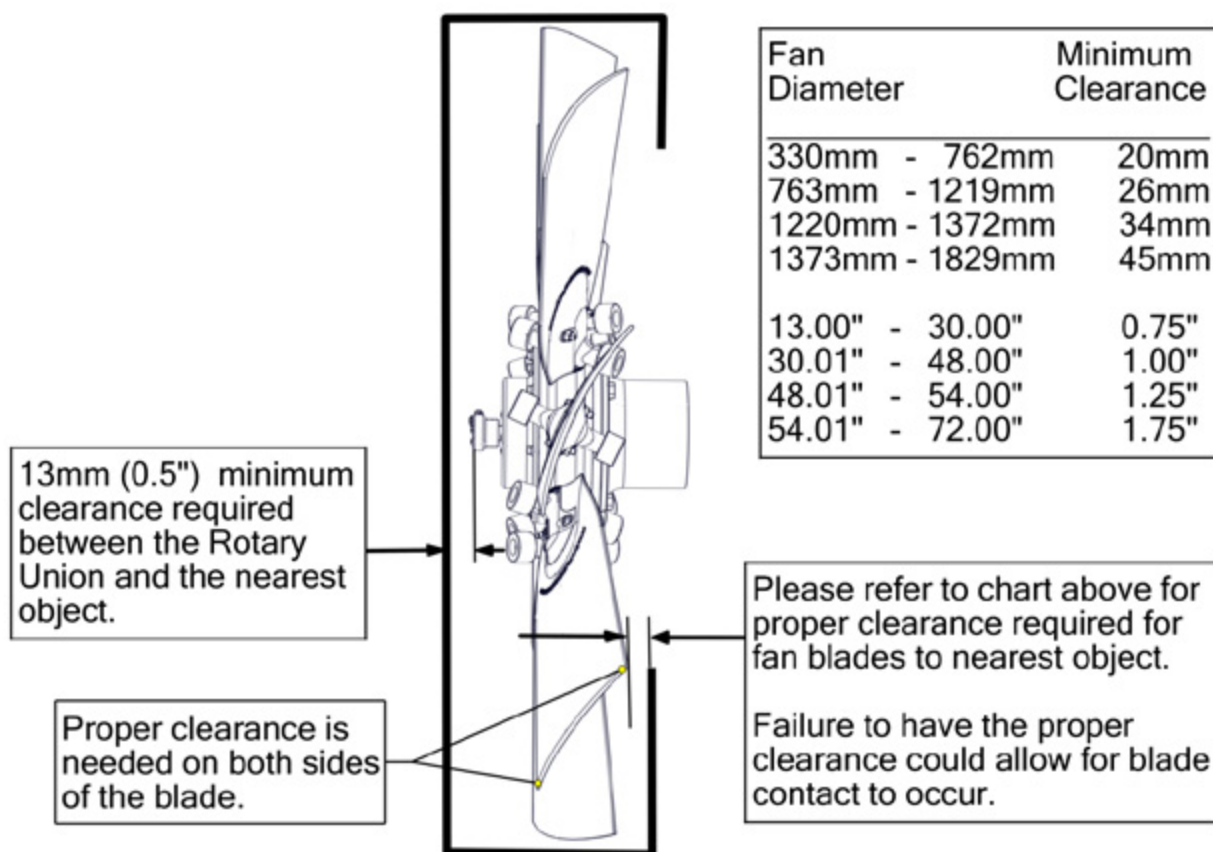

Figure 10
5. Ensure you have the correct blade edge clearance. See Figure 10 on the next page or a list of minimum clearances based on fan diameter.
WARNING: Ensure that you have the minimum clearance between the rotary union and closest obstruction as per Figure 10 on page 4-5.
Does fan rotate in default and full reverse pitches without obstruction? See Fig 10, page 4-5 .
Does fan rotate in default and full reverse pitches without obstruction? See Fig 10, page 4-5.